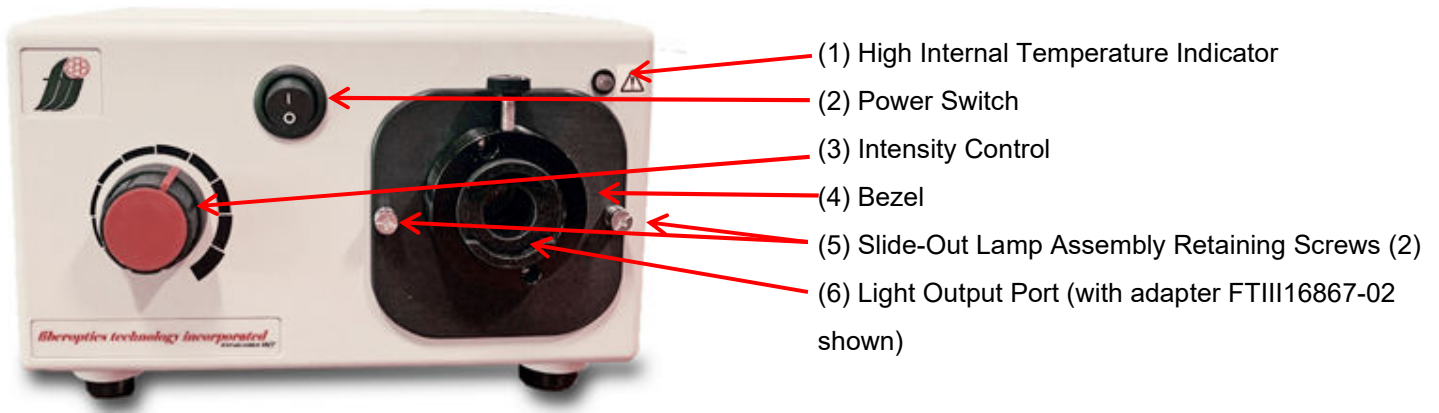

Figure 2 (Front Panel)
1. Make sure the power switch (*Figure 2 - Front Panel, item 3*) is in the “**OFF**” position.
8. Toggle the power switch *Figure 2 - Front Panel, item 2* to the “**ON**” position.
9. Adjust the light intensity with the intensity control knob (3) *Figure 2 (Front Panel)* to desired setting.
1. Depress the power Switch (*Figure 2 - Front Panel, Item 2*) to the "OFF" position.